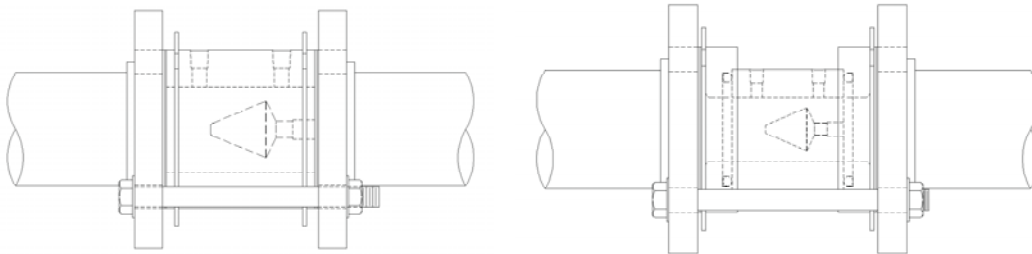

Figure 13 (Bolts removed for clarity)
Step 4	Install bolts into two of the upper bolt holes in the same pattern as the lower two. Snug the bolts in an alternating pattern while checking alignment of the meter and gaskets. When all components are secured in place, install the balance of the bolts as required and tighten using the appropriate tightening sequence. Examples of installed meter assemblies are shown below (Figure 13).